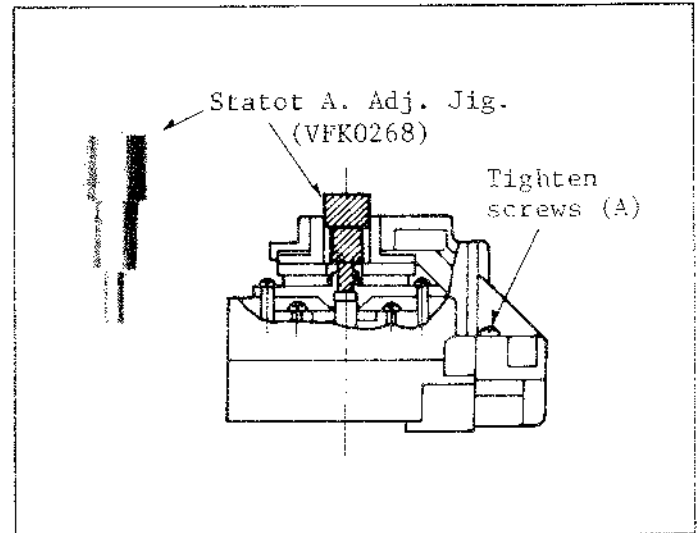

Fig. 15
2. Before reinstalling the Stator Angle, as shown in Fig. 15, carefully tighten screws (A) with the designated "Stator Angle Adjustment JIG (VFK0268)". After screws (A) are properly tightened, disengage this Jig.